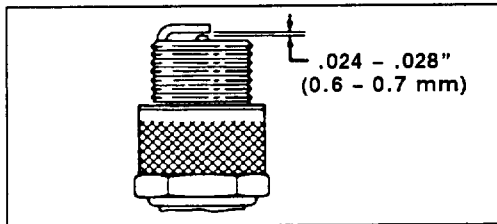

Figure 16
3. Set air gap at .024 – .028" (0.6 – 0.7 mm) (Fig. 16). Install correctly gapped spark plug and gasket seal. Tighten plug firmly to 9 ft-lb (1.2 Kg-m).